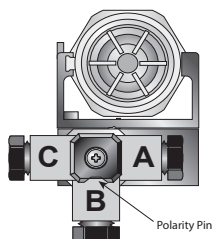

Figure 14: Polarity pin
4. Determine which direction the body of the connector should face. See *Figure 14*.